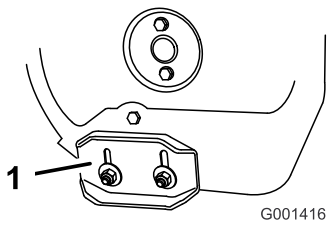

Figure 43
3. Loosen the nuts that secure both skids to the auger sides until the skids slide up and down easily (Figure 43).